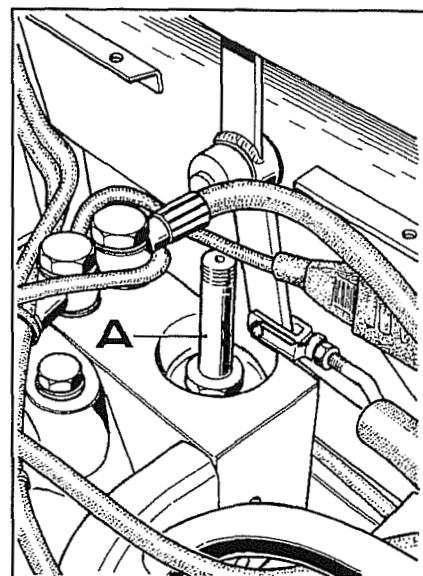

Fig. 13
2. Unscrew and remove solenoid **A** (Fig.13) from the solenoid casing.